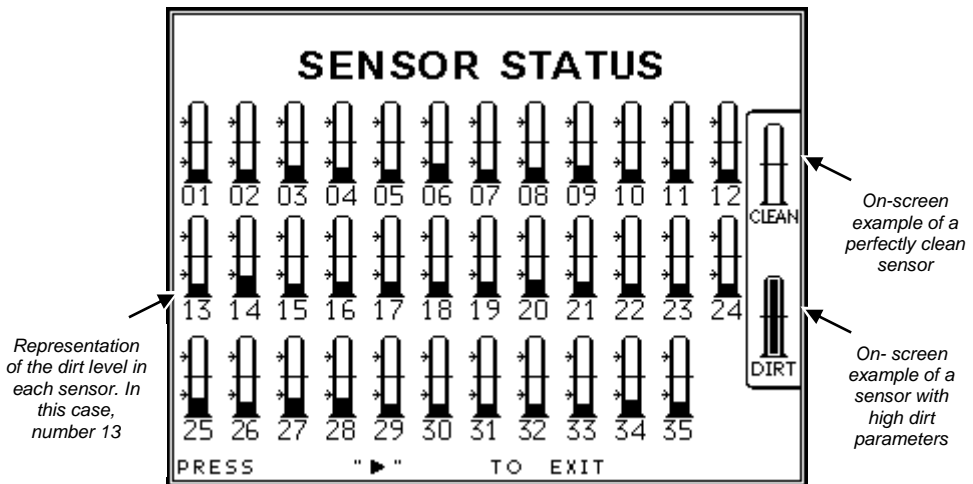

Figure 24. Visualization screen of dirt level in seed or fertilizer sensors
3. **Select the "STATUS" option:** First, press  or  until  is activated, and press  to access this option. After that, the screen will indicate the status of the sensor, as shown on *Figure 24*.
2. **Select the “LOG”** option as follows: First, press  or  until  is activated and press  to enter this option. After this the log of the monitor will appear as shown on *Figure 24*.